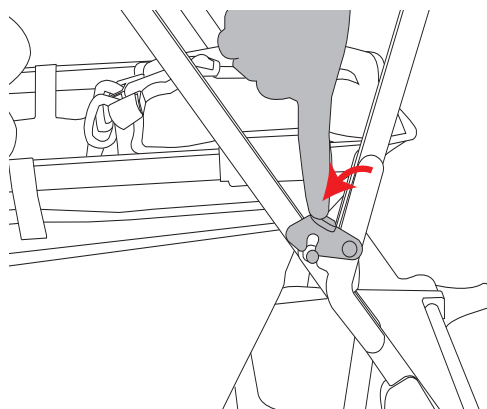

Figure 3
- Lock the safety latch on the lower left side of the stroller by pushing the lever down over the extended rivet. See Figure 3.